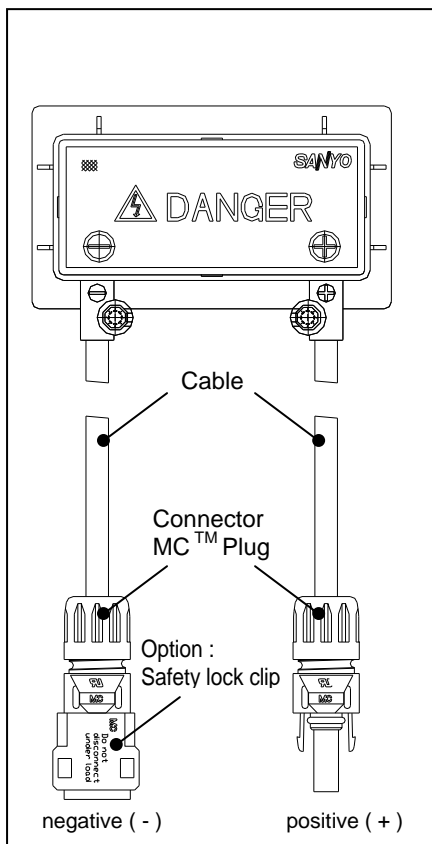

Figure 4 Configuration of Junction Box
- One terminal is dedicated to each polarity; with the polarity symbols engraved onto the body of the junction box (see Figure 4).